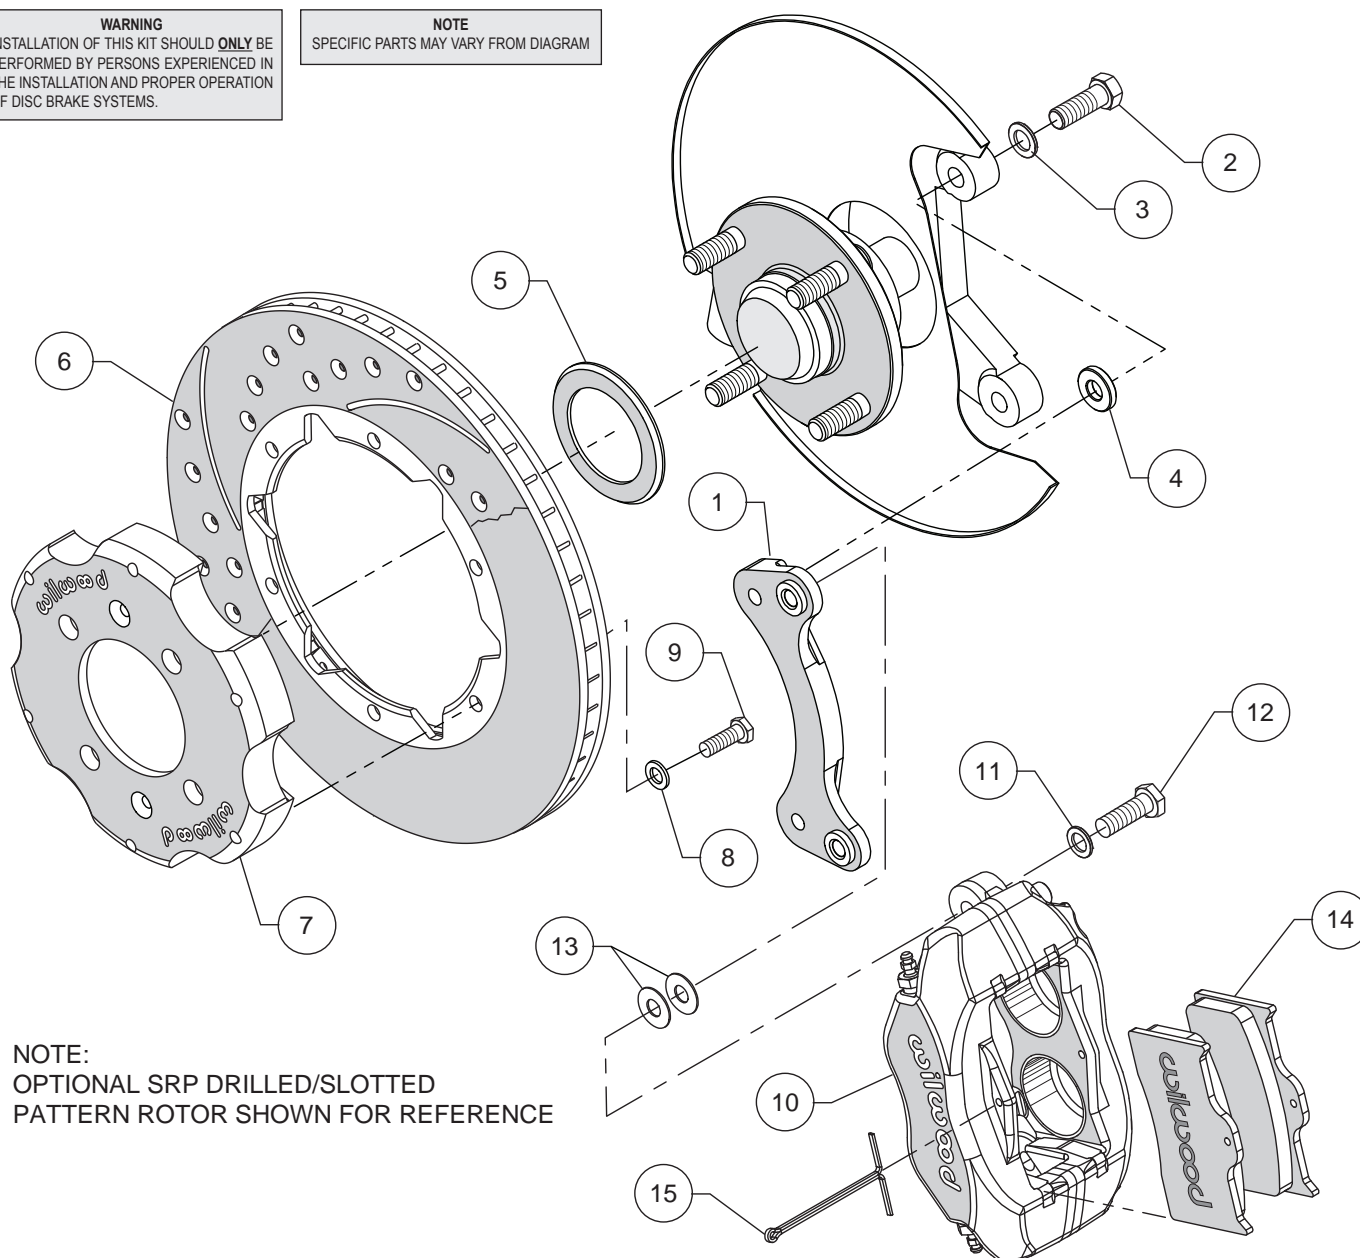
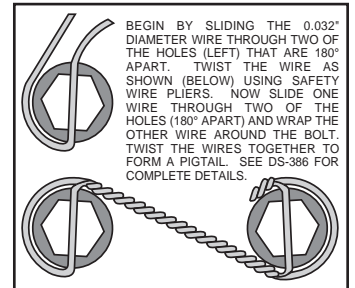
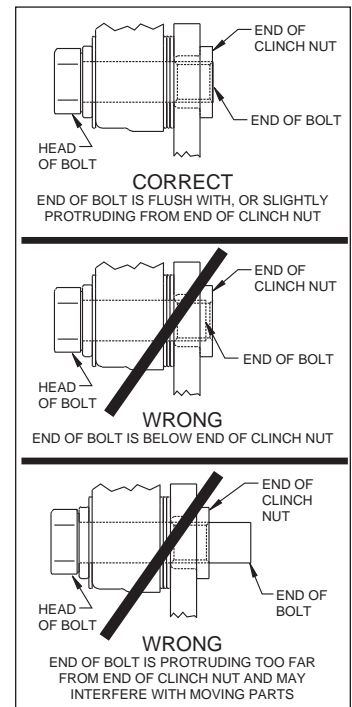

Figure 1. Typical Installation Configuration
Figure 3. Safety Wire Diagram
Figure 4. Clinch Nut Engagement Diagram
Assembly Instructions (numbers in parenthesis refer to the parts list and Figure 1 on the preceding pages): **CAUTION:** All mounting bolts must fully engage clinch nuts. Be sure to check that all bolts are either flush or protruding through flanged side of clinch nut after shimming, Figure 4.
- Orient the caliper mount bracket (1) as shown in Figure 1 and Photo 1, and install using bolts (2) and washers (3). Place a spacer (4) on each bolt between the bracket and caliper mounting bosses, Figure 1 and Photo 2. Ensure that the flanged heads of the clinch nuts in the bracket are facing outboard, Photo 1. Temporarily tighten the mounting bolts. **NOTE:** The bracket must fit squarely against the mount bosses on the upright. Inspect for interference from casting irregularities, machining ridges, burrs, etc. Remove bolts one at a time, apply red *Loctite*[®] 271 to the threads and torque to 40 ft-lb.
- Orient the rotor (6) and the hat (7) as shown in Figure 1 and Photo 3. Attach rotor to hat using bolts (9) and washers (8). Using an alternating sequence, apply red *Loctite*[®] 271 to the threads, and torque to 85 in-lbs. Safety wire bolts using standard 0.032 inch diameter stainless steel safety wire as shown in Figure 3. Please refer to Wilwood's data sheet DS-386 (available at www.wilwood.com/Pdf/DataSheets/ds386.pdf) for complete safety wire installation instructions.
- **NOTE:** Please reference the caution statement at the beginning of the assembly instructions. Mount the caliper (10) onto the caliper mounting bracket (1) using bolts (12) and washers (11), as shown in Figure 1. Initially place two .035" thick shims (13) on each bolt between the caliper and the bracket, Photo 5. Temporarily tighten the mounting bolts and view the rotor (6) through the top opening of the caliper. The rotor should be centered in the caliper, Photo 6. If not, adjust by adding or subtracting shims between the bracket and the caliper. Always use the same amount of shims on each of the two mounting bolts. **NOTE:** The end of each bolt must be flush with or slightly protruding from the head of the clinch nut, as shown in Figure 4. If necessary place spare shims between washer (11) and caliper mounting ear to achieve the proper clinch nut engagement. Once the caliper alignment and clinch nut engagement are correct, remove the bolts one at a time, apply red *Loctite*[®] 271 to bolt threads, and torque to 40 ft-lb. Safety wire the bolts as shown in Figure 3.